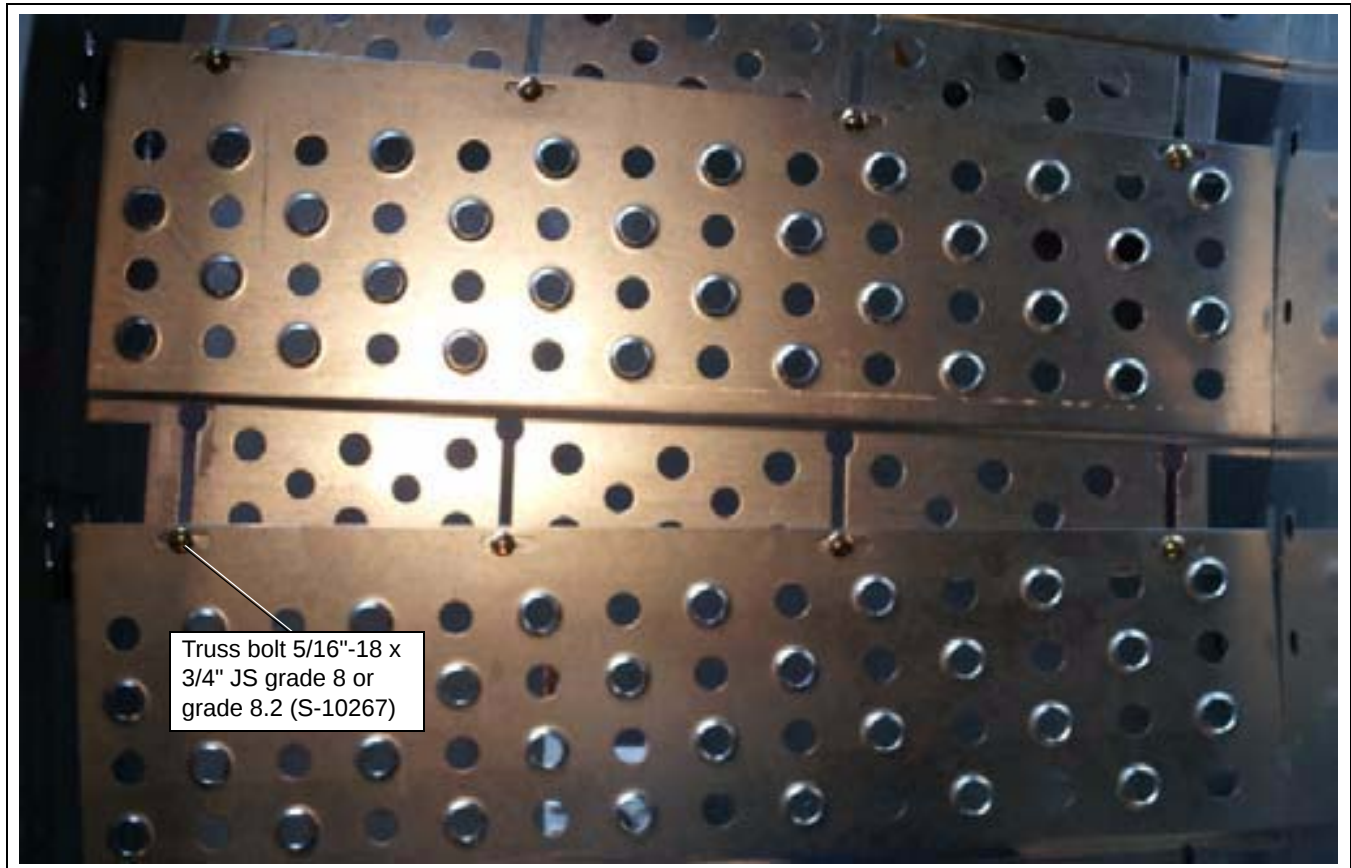

Figure 4N
5. Each plank should be overlapped at the edges and bolted with 5/16"-18 x 3/4" JS grade 8 or grade 8.2 bolts (S-10267) and 5/16"-18 JS grade 5 nuts (S-10268). *(See Figure 4N.)*